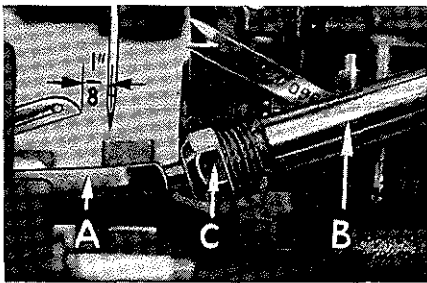

Fig. 4
At this point, insert lower looper (A, Fig. 4) into bar (B). With lower looper at left end of its stroke, set looper point  $1/8$  inch from center of needle (Fig. 4) using looper gauge No. 21225- $1/8$ . Do not have lower looper deflecting needle. Tighten nut (C). Now assemble differential (front) feed dog.